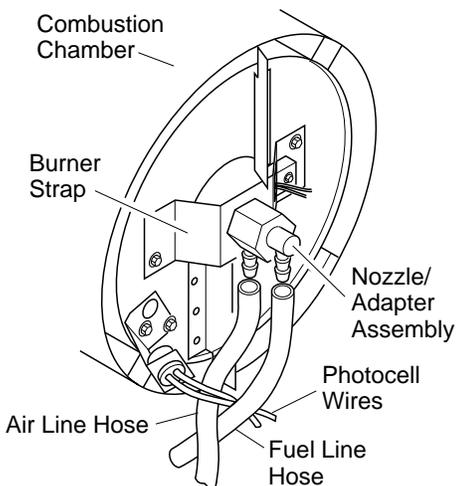

Figure 12 - Removing Air and Fuel Line Hoses
14. Replace photocell in photocell bracket. Route wires as shown in Figure 12, page 8.
3. Remove fuel and air line hoses from nozzle assembly (see Figure 12).
11. Attach and route fuel and airline hoses to nozzle assembly as shown (see Figure 12). Route photocell wires as shown in Figure 12.